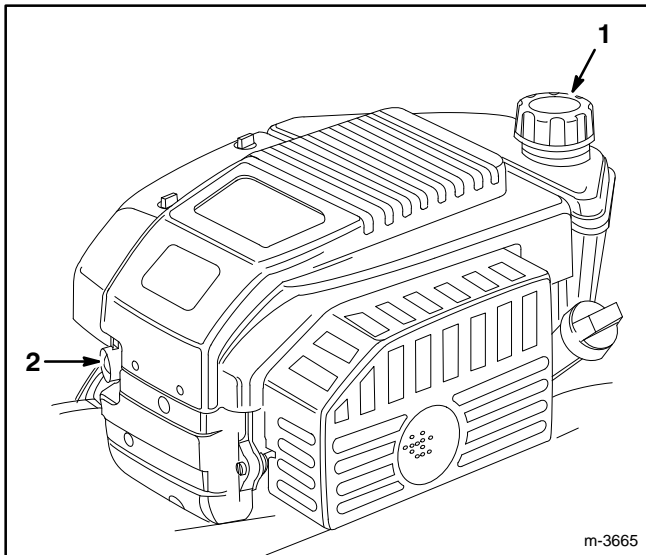

Figure 8
1. Clean around fuel tank cap (Fig. 8) and remove cap from tank.
4. Push primer three (3) times (Fig. 8). **Wait about two (2) seconds between each push.**